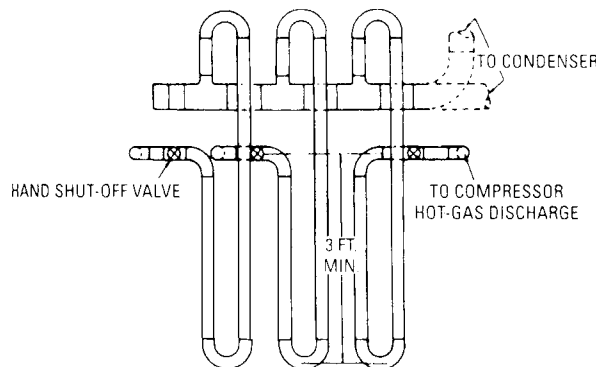

Fig. 18-8 One way to connect hot-gas discharge lines.
- The compressor hot-gas discharge lines should be connected as shown in Fig. 18-8.